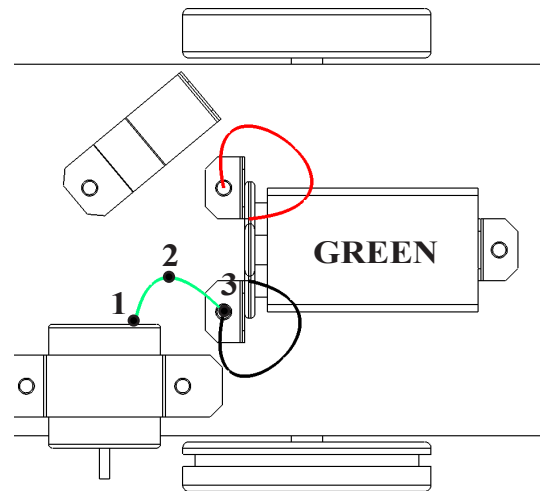

Fig. 22
Step 11. Click the 3 Points in **Fig. 22** to draw a **GREEN** spline for the wire between the **left L-Bracket** and the **rear of motor**. Press **Escape** key to end the spline.